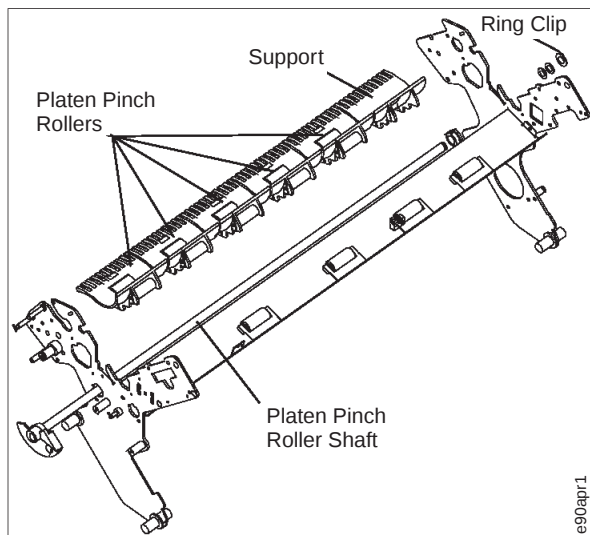

Figure 147. Platen Pinch Rollers. (Viewed From Left Side)
6. From the printer mechanical assembly, remove the retaining clip (called 'Ring Clip'in Figure 147), washers, and platen pinch roller shaft.